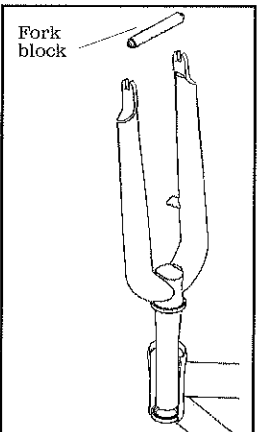

Fig. 27
23. Insert the steerer into the headtube and upper bearing (Fig. 27).